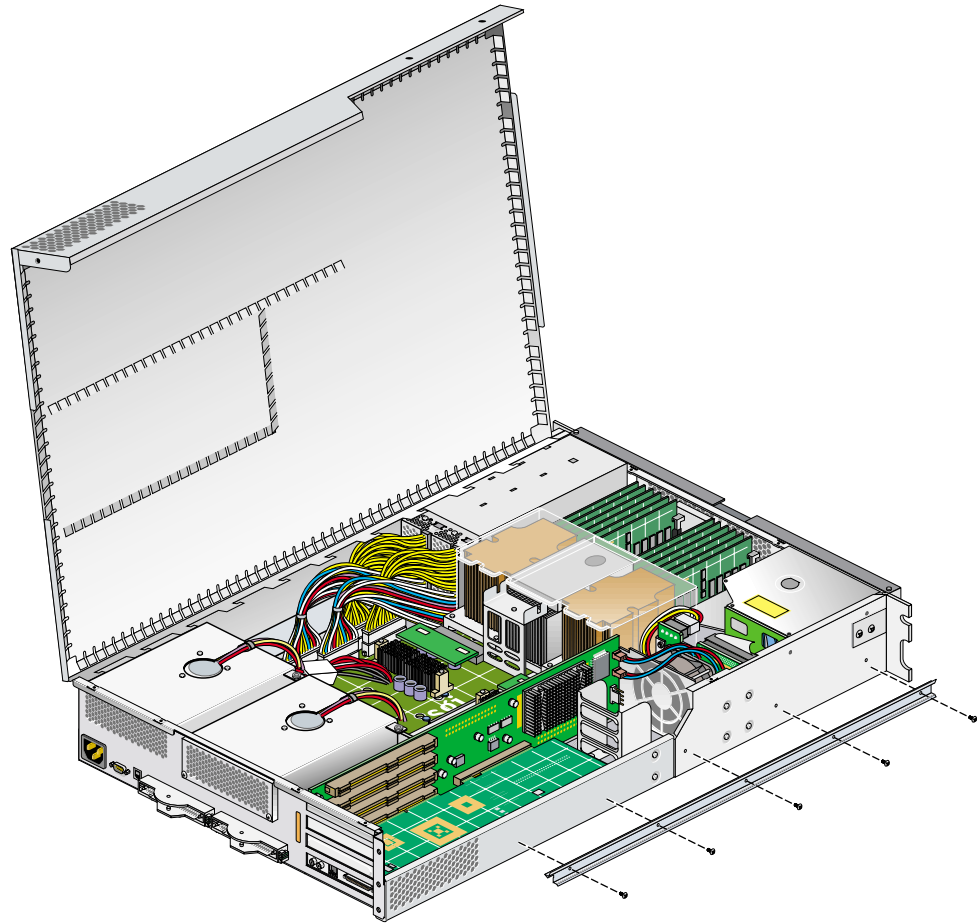

Figure 3-4 Removing an Optional Chassis Rail
8. If you are installing a card in one of the two bottommost card slots, you also need to remove the optional chassis rail by unscrewing the five Phillips screws, as shown in Figure 3-4. (If you are not installing a card into one of the bottom-most card slots or your module is not slide-rail mounted, proceed to step 9.)